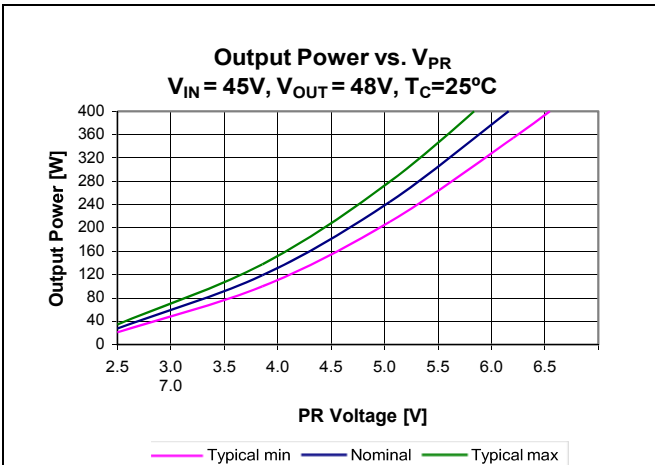

Figure 21 – Output Power vs. V_{PR} ; $V_{IN} = 45\text{ V}$, $V_{OUT} = 48\text{ V}$, $T_{CASE} = 25^\circ\text{C}$
Control node (PR) is the input to the control node which determines the powertrain timing and ultimately the module output power (Figure 21). An internal 0.5 mA current sink is always active. The bi-directional buffer between PR and the control node has two states. In normal operation, PR will be above the 0.79 V switching threshold, and will drive the control node through the buffer. An internal 7.4 V clamp determines the maximum output power that can be requested of the modulator.